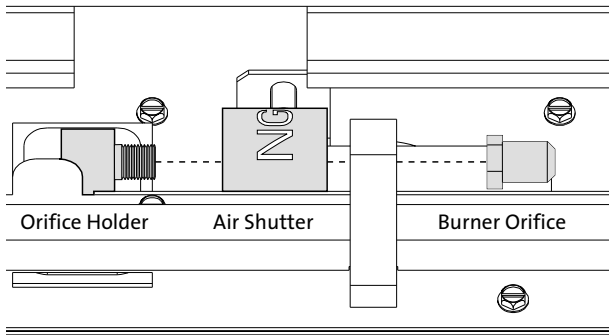

Figure 15. Burner orifice change-out.
5. Use a 1/2" open end wrench or deep-well socket to remove the burner orifice from the brass orifice holder. Replace with the orifice supplied in this kit and tighten securely. See fig. 15.